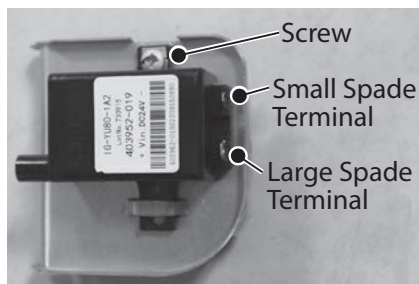

Figure 112 - Disconnecting ignitor assembly
- 11 Disconnect the two spade terminal connections at the back of ignitor and remove ignitor assembly and bracket from water heater. See Figure 112.